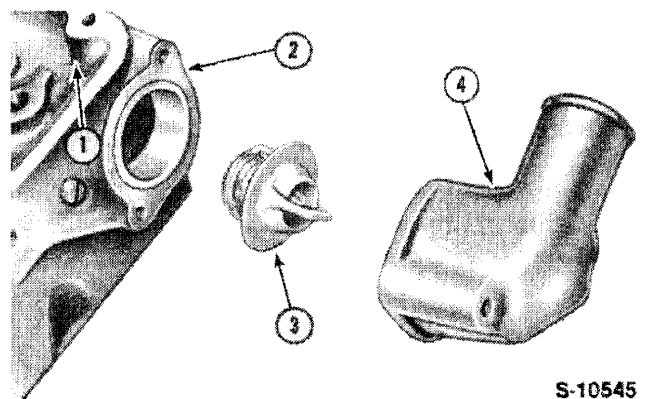

Figure 5
1. Remove the coolant outlet connection and the thermostat and gasket, Figure 5.